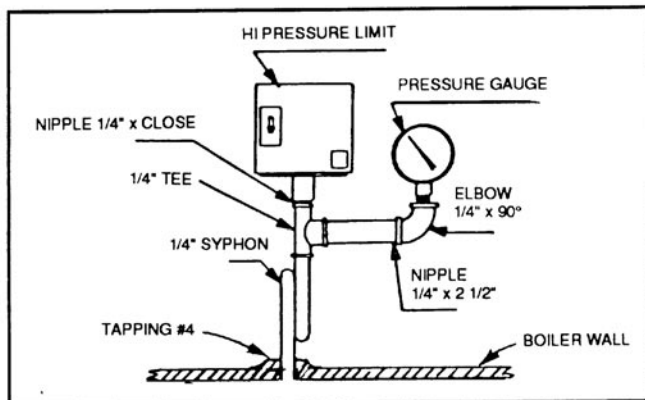

Figure 4.
- I. STEAM BOILER TRIM, see page 2 for tapping locations, and figure 4 for illustration of steam boiler.
- A. Steam pressure gauge and pressure cut-out, install in tapping no. 4, figure 4.
Provide Header and Hartford Loop as suggested. See figures 4 and 5. Local codes apply.